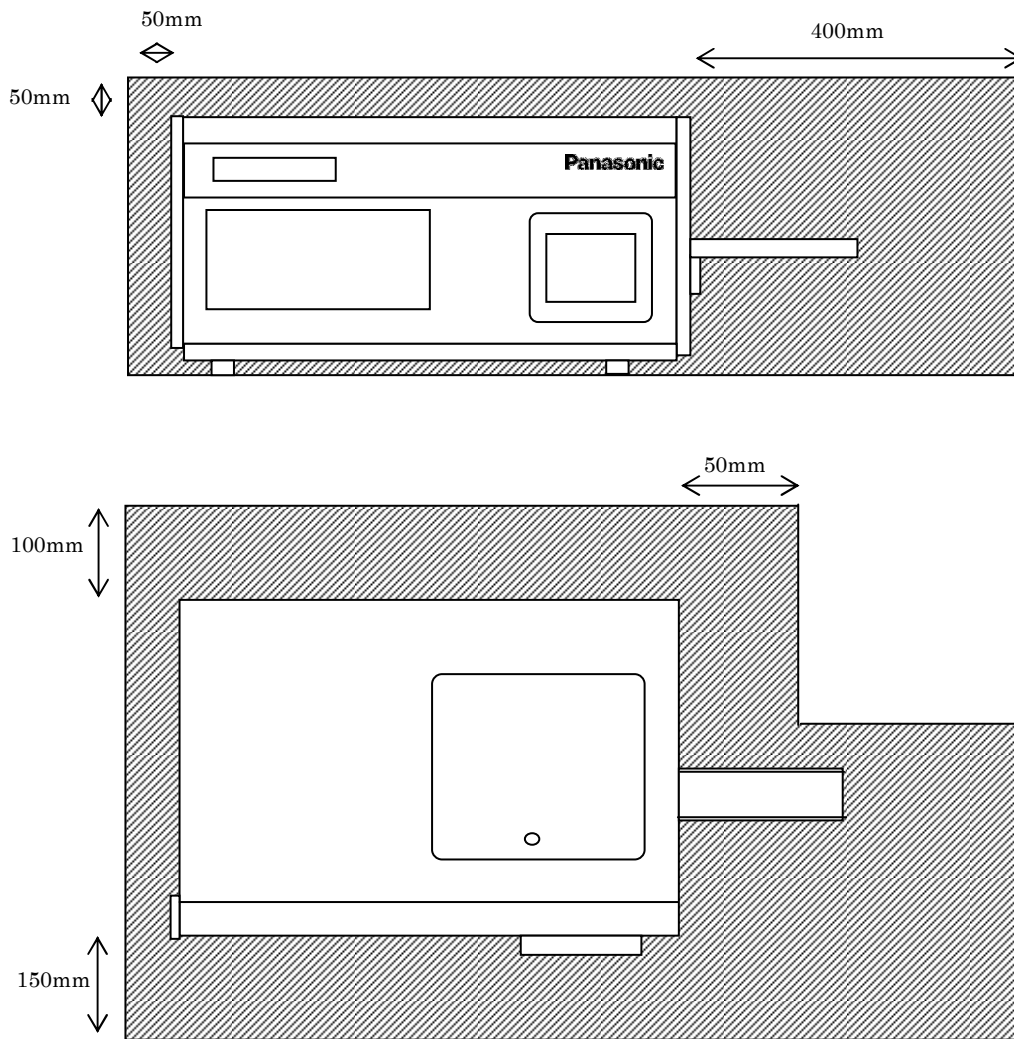

Fig.2-2 Equipment side space area
- c) Equipment side space Fig.2-2